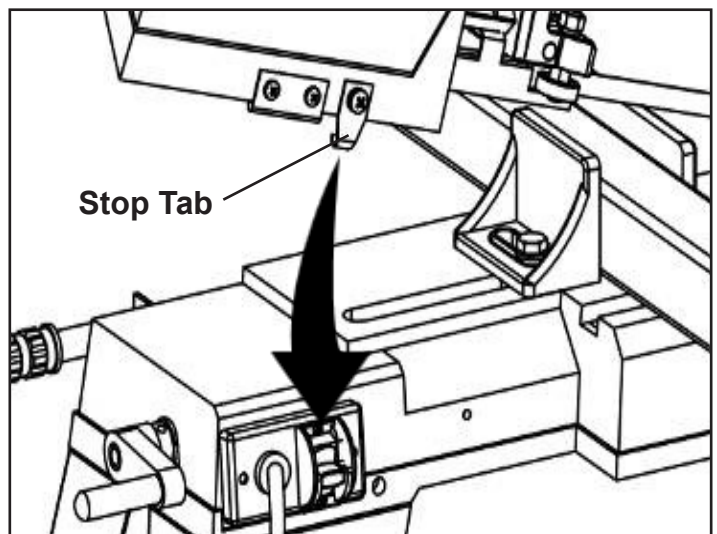

FIGURE 22
5. When the cutting operation is complete the saw will automatically shut off. The stop tab (Figure 22) will engage the switch, disconnecting power to the motor.